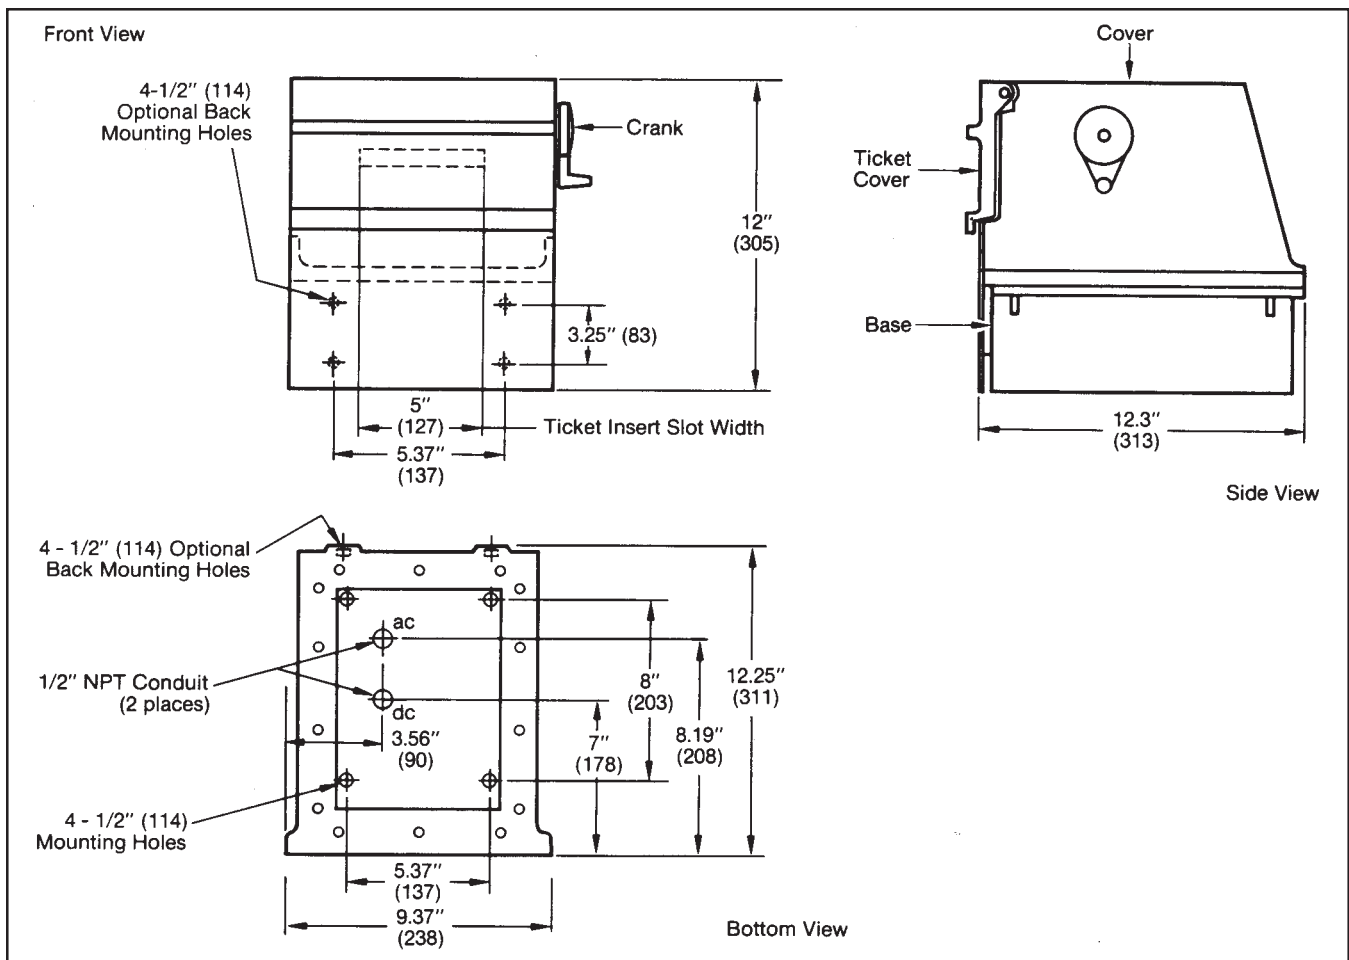

Figure 1 – Load Printer Dimensions
| Dimensions, Figure 1 | Page 3 |
The installation kit provided with each unit includes four (4) mounting bolts (1/2 - 13) with washers. Mounting hole dimensions can be found on Figure 1. The Load Printer may be mounted using the holes located on the bottom or the holes located on the back of the housing.
The Smith Meter Load Printer has two 1/2" NPT openings for conduit connections (Figure 1). The entrance nearest the front is for dc and signal cables only. The entrance nearest the rear is for ac wires only.